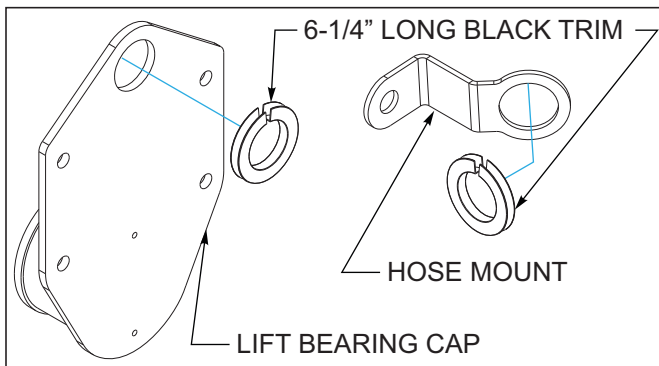

Figure 3-9: Trim Installation
8. Install a 6-1/4" long piece of black trim in the top hole of the lift bearing caps. Outer wing bearing caps do not require trim. Install a 6-1/4" long piece of black trim in the hole of the hose mounts **See Figure 3-9**. Route lift hydraulic hoses through bearing caps between frame sections **See Figure 3-9**.